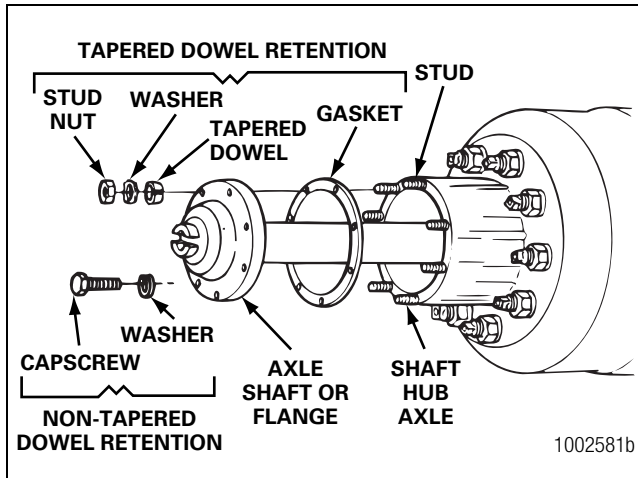

Figure 11.2
9. Install the manual engaging capscrew into the storage hole. The storage hole of threaded shift assemblies is located in the shift tower of the carrier next to the cylinder. Tighten the capscrew to 15-25 lb-ft (20-35 N•m). Figure 11.2.
6. Remove the stud nuts or capscrews and washers from the flange of the axle shaft. Figure 11.2.
7. Loosen the tapered dowels, if used, in the flange of the axle shaft. Figure 11.2.
9. Remove the tapered dowels, gasket, if used, and the axle shaft from the axle assembly. Figure 11.2.
5. Install the gasket, if used, and axle shaft into the axle housing and carrier in the same location. The gasket and flange of the axle shaft must be flat against the hub. Rotate the axle shaft or the driveline as necessary to align the splines and the holes in the flange with the studs in the hub. Figure 11.2.